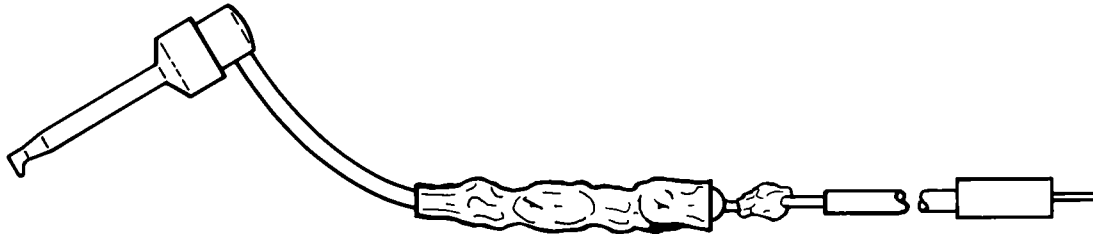

Fig. B-6. Assembly, step 3.
- Slide heat shrink tubing over diode and resistor, leaving one lead of resistor exposed, and then shrink the tubing. See Fig. B-6.